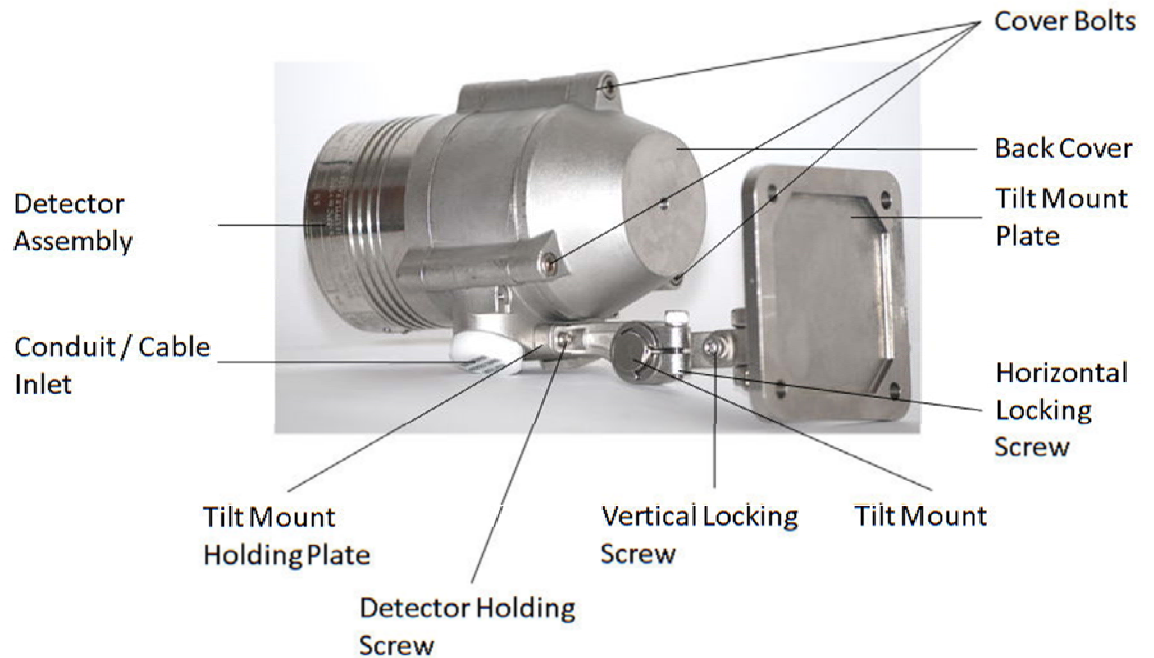

Figure 2: Detector with Tilt Mount
The Tilt Mount (part no. 093-0543) enables the detector to be rotated up to 60° in all directions. Figure 2 shows the Detector mounted on the Tilt Mount.
- G. Place and secure the detector's back cover by screwing the three (3) socket-head-screws in the Cover Bolts Figure 2.